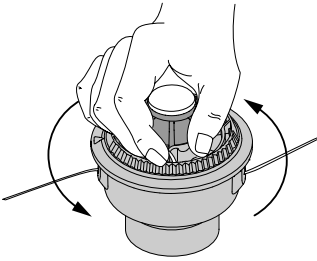

Fig. 23
8. Hold the outer spool. Wind the inner reel counterclockwise until approximately four (4) inches (102 mm.) of line remain (Fig. 23).